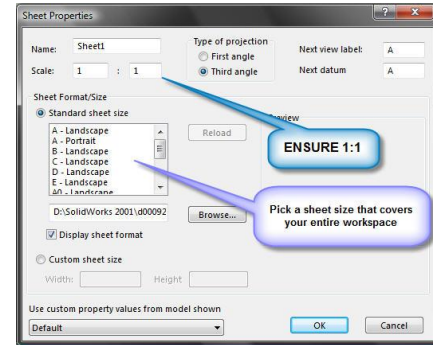

Figure 5
2. Ensure the drawing is SCALED 1:1. Right click **Sheet** > Click **Properties** (shown Figure 5).